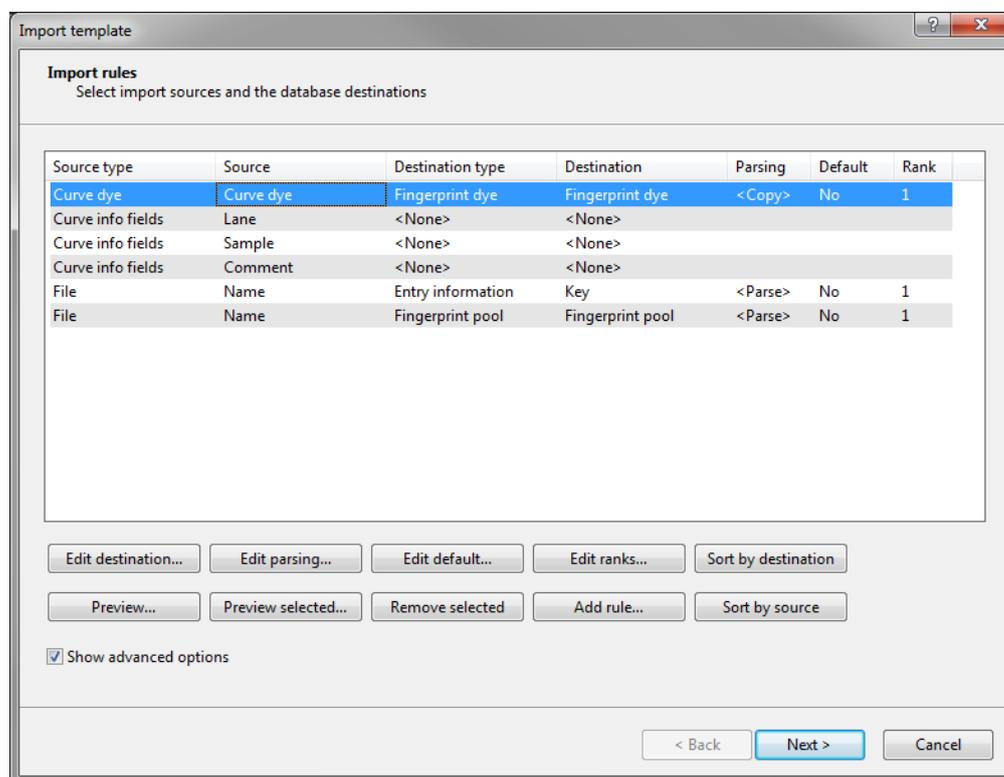

Figure 2: Import rules.
4. Press the **<Create new>** button to call the *Import rules* dialog box (see Figure 2).
The *Import rules* dialog box should now look like Figure 2.